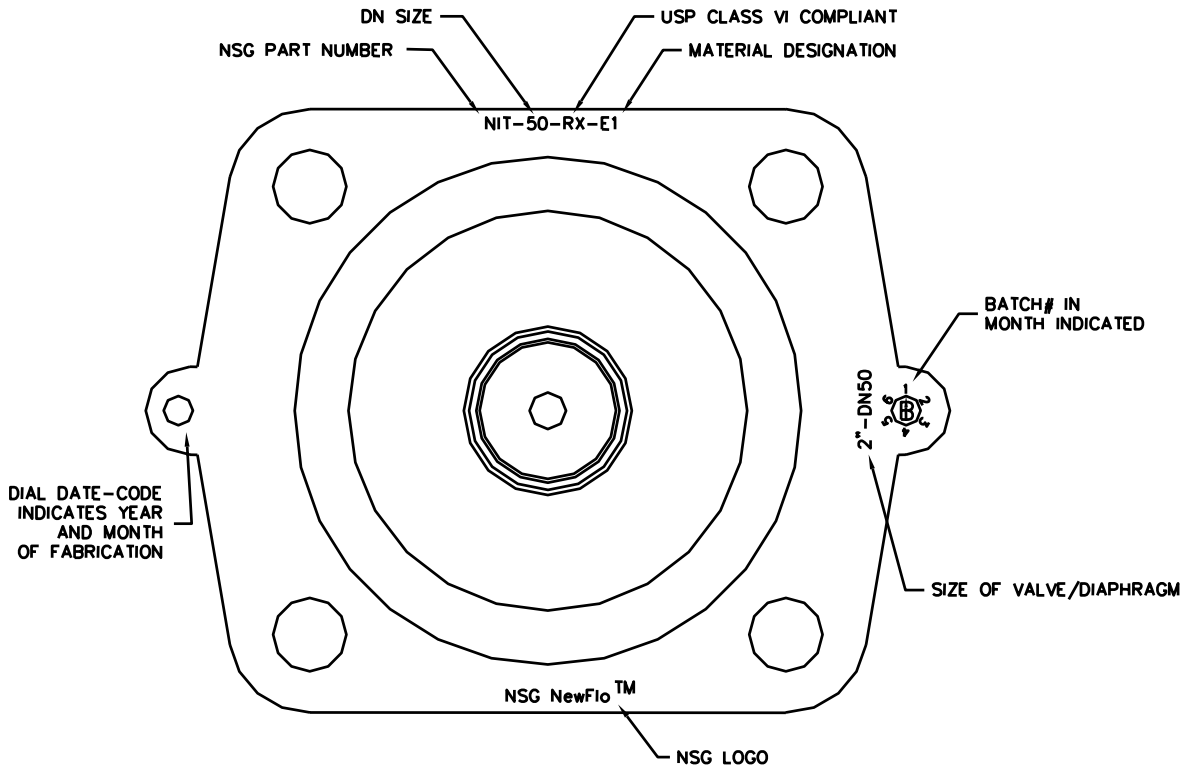

FIGURE 2 – Identifying the Diaphragm
4. Check to make sure that the replacement diaphragm is the same size and material as the old diaphragm. See OEM manual for help in identifying the old markings. NSG diaphragm marks can be found in Figure 2 below. Two piece and one piece diaphragms are not interchangeable on ITT® diaphragm valves (see OEM Literature).